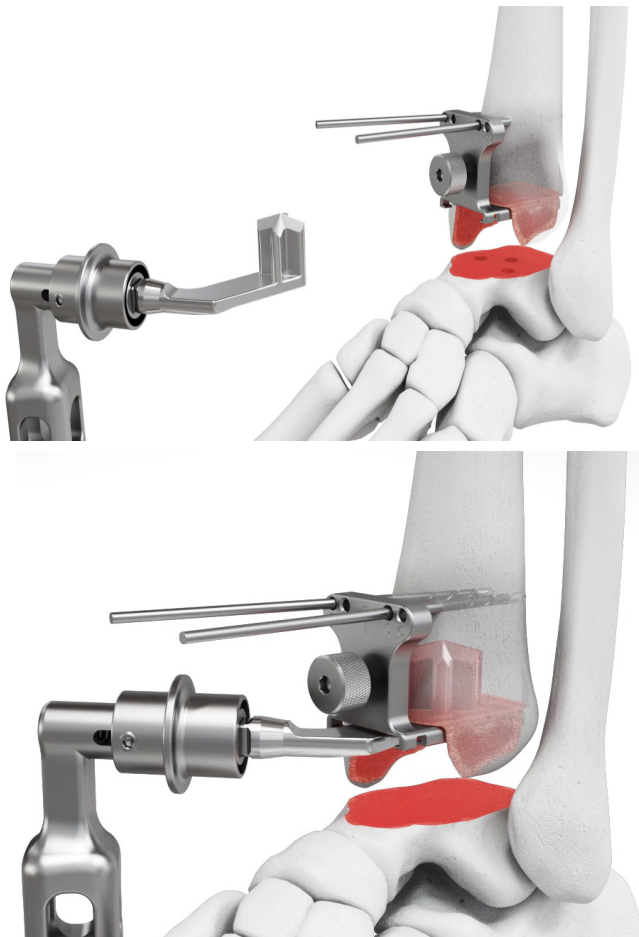

Fig. 29
2.18 Using the X-Stem Starter Broach attached to the offset impactor, broach serially through the Tibial Trial. If necessary, use the straight impactor to impact the broaches up into the tibia (Fig 29).